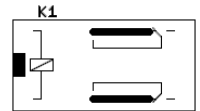

Figure 2
- Instead of relay K1, two jumpers are installed using 18 gauge wire in the locations shown between the common and normally closed connections of the relay as shown in Figure 2. Pre-formed jumpers are supplied with the kit.